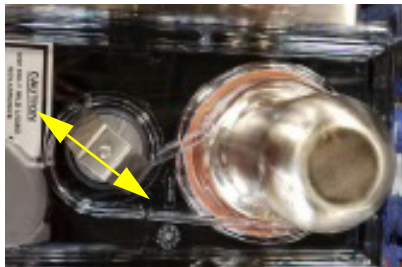

Figure 6.
7. Align propeller PN **S6737** as shown in Figure 6.